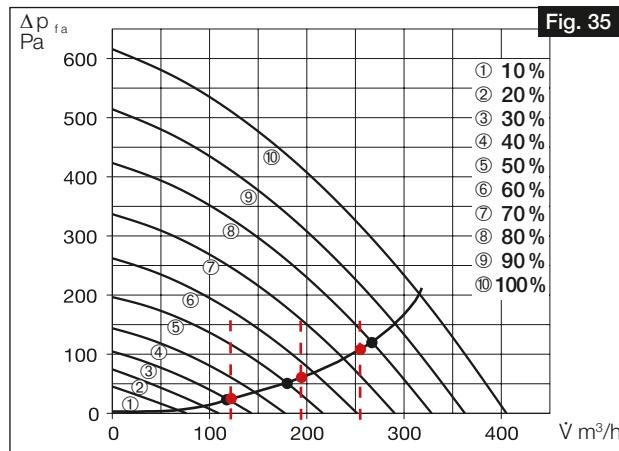
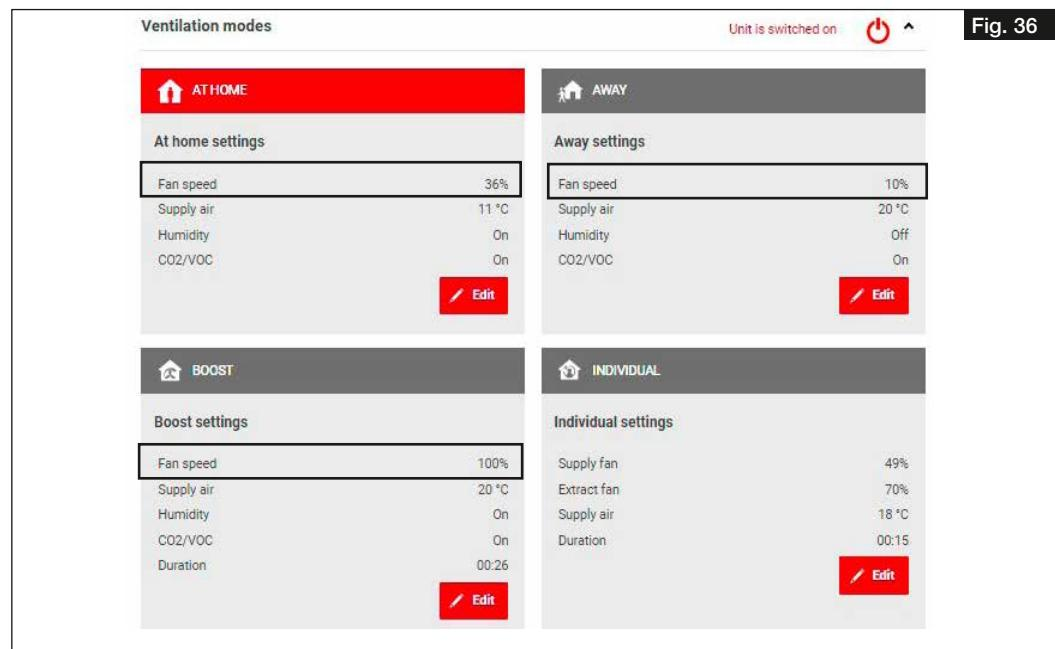

Fig. 35
Fig. 36
1. Enter the flow rates from the design calculation for the three ventilation profiles "At home", "Away from home" and "Intensive ventilation" in the unit characteristic curve for supply and extract air (cf. Fig. 35).
① We recommend entering the following values in the ventilation profiles:
2. The approximate fan powers to be set (in %) can be read from the ventilation profiles at the points of intersection of the flow rates and the system characteristic curve (cf. Fig. 35). Enter these in the corresponding ventilation profile via the easyControls software or the control element KWL-BE Touch (cf. Fig. 36).